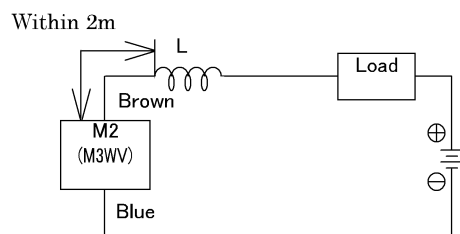
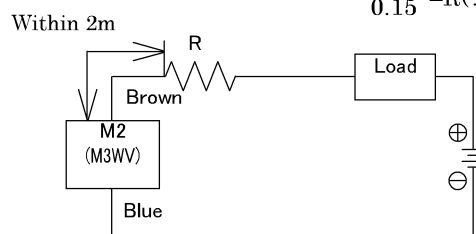
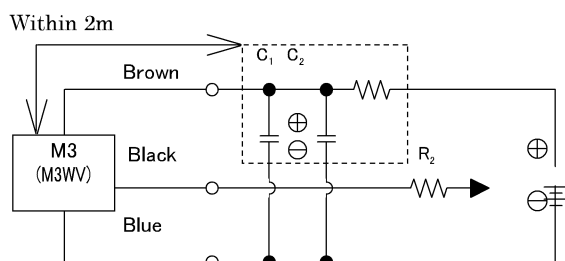

Fig.5 • Chock coil
Fig.6 • Rush current limiting resistance
Fig.7 • Electric power noise absorptive circuit  $C_1=20$  to  $50\mu\text{F}$
- Provide the following protective circuit if the lead wire length exceeds 10 m. (Fig.5), (Fig.6), (Fig.7)